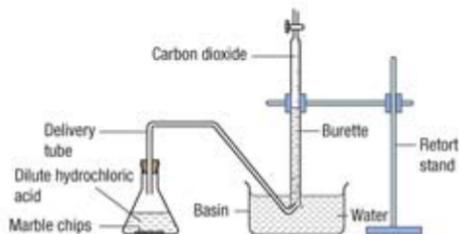

Figure 1
- A student carried out an experiment to study a factor which affects the rate of reaction between marble (calcium carbonate) and dilute hydrochloric acid. Figure 1 shows the apparatus set-up for the experiment.